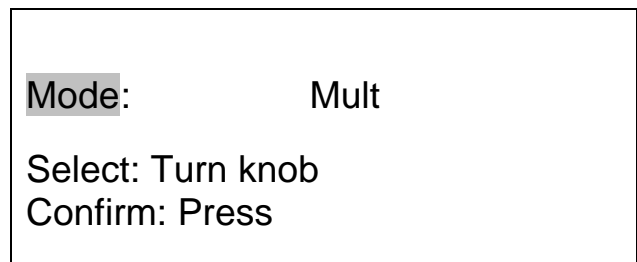

Fig. 33
- Select the function "Mult" in the submenu "Mode" (fig. 29.1) via the turning knob (fig. 30.1) and confirm it by pressing the button (fig. 33).